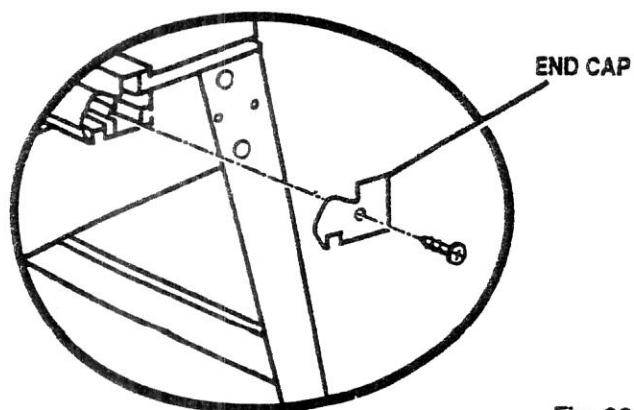

Fig. 20
- Attach the rail end caps and screws with a phillips screw driver. See Figure 20.